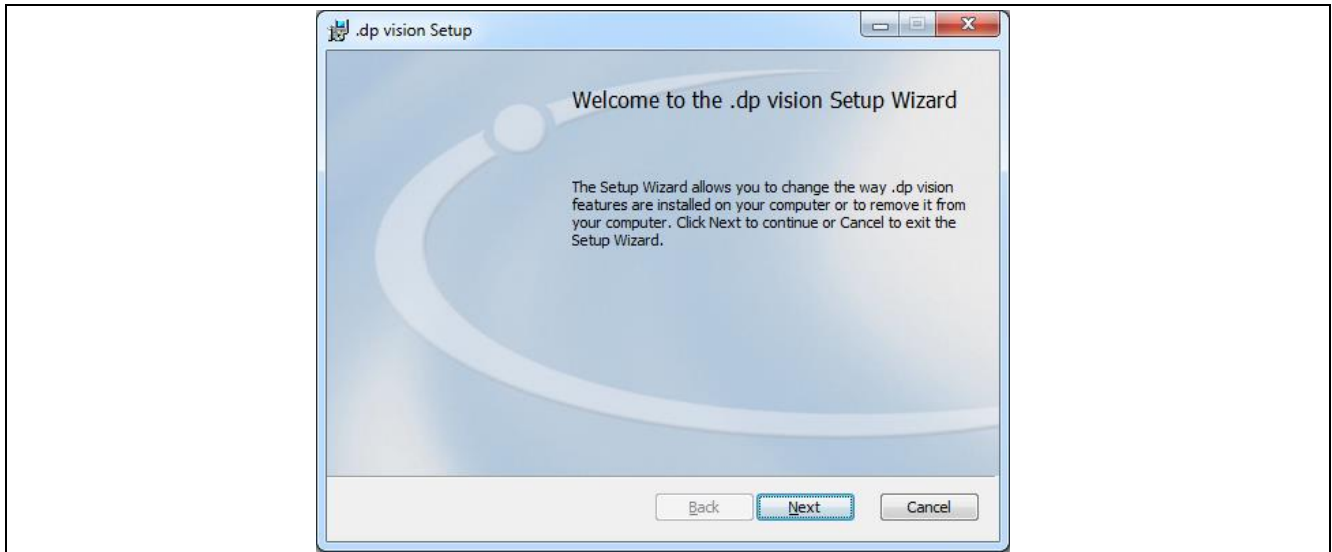

Figure 13 .dp Vision Setup Wizard
1. Double-click the file “dpVision_V2.0.x.y.msi” to start the Setup Wizard. The following window then appears – see Figure 13.